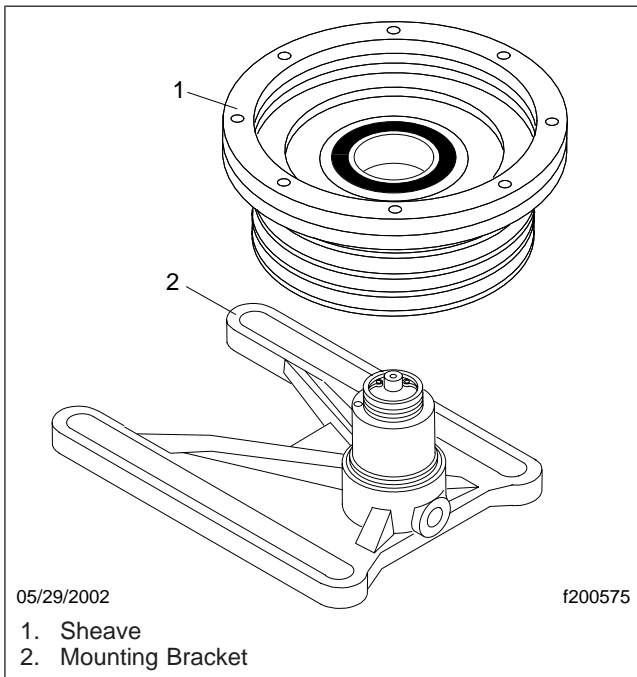

Fig. 8, Removing the Sheave
21. Remove the sheave from the mounting bracket. See Fig. 8 .
- 2.3 Slide the sheave onto the mounting bracket. See **Fig. 8** .